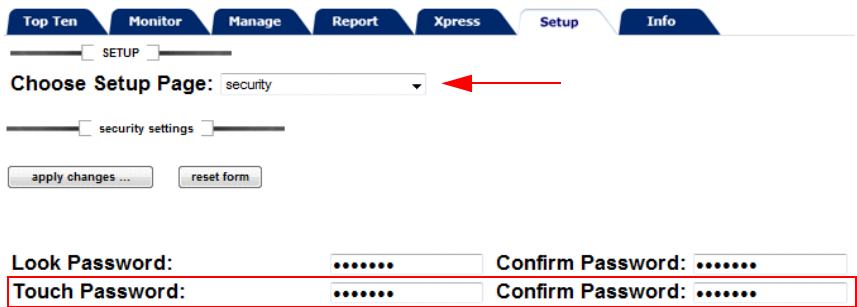

Figure 1–5 Legacy user interface - Setup tab
1. Configure both PacketShapers with identical passwords. For direct standby to work, both units must be configured with the same Touch Password. (See Figure 1–5.)